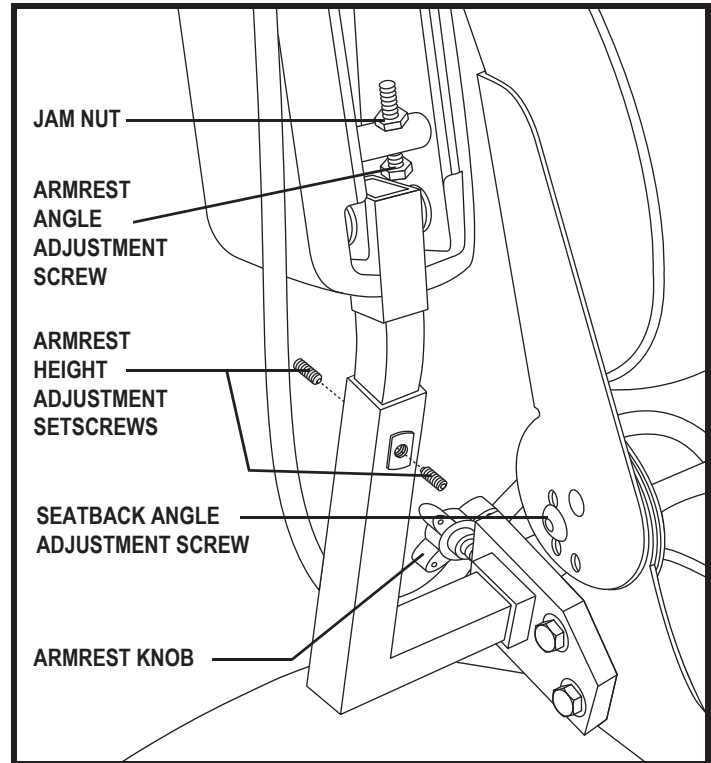

Figure 14. Seatback and Armrest Adjustment
1. Remove the seatback angle adjusting screws from each seat hinge. **See figure 14.**
1. Locate the armrest width adjustment knob or screw on each side of the armrest receiver bracket. **See figure 14 or 15.**
1. Loosen the setscrew on the armrest. **See figure 14 or 15.**